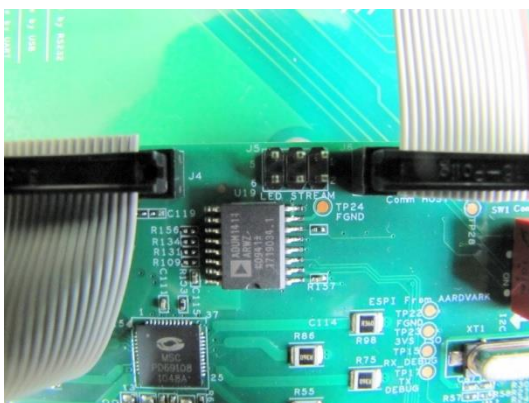

Figure 18: LEDs Indication
9. LEDs Indication (see Figure 18)